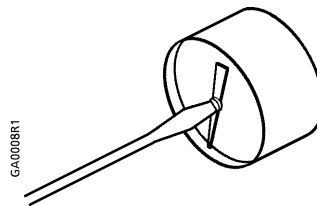

Figure 1. Adjusting the Gauge Pointer.
| Dimensions | | See Figures 1, 2, and 3 |
3. Insert a screwdriver into the screw at the center of the pointer and rotate the screw. See *Figure 1*.